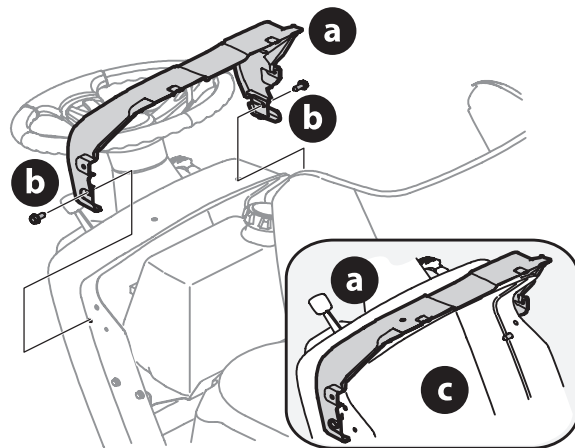

Figure 4
1. If the dash shroud (a) was shipped loose, the hardware for attaching the dash shroud (a) is shipped attached to the dash shroud (a). Remove the two bolts (b) from the dash shroud (a) (Figure 4).
2. Mount the dash shroud (a) and align the mounting holes between the top of the dash and the dash shroud (Figure 4).
3. Secure the dash shroud (a) to the dash (c) with the bolts (b) removed in Step 1 (Figure 4).